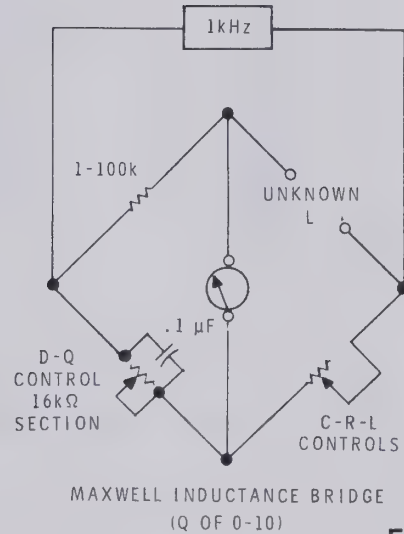

Figure 7
The Maxwell bridge circuit (Figure 7) is used to measure inductance when the storage factor (Q) of the unknown inductance is less than 10. In this bridge circuit, the inductance is measured in terms of capacitance.